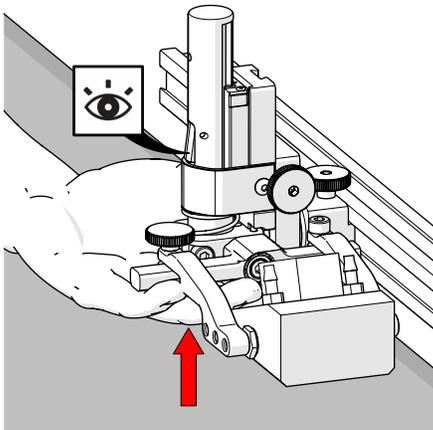
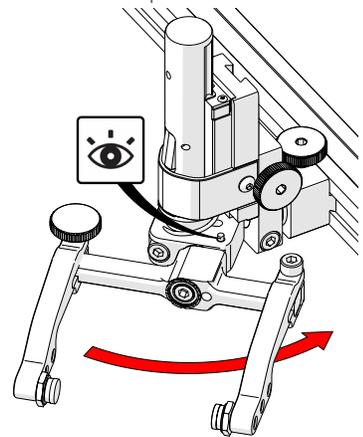

Fig. 49 - Latch probe holder
Fig. 55 - Stop post locates 90°
1. Ensure the probe holder is in the latched upper position. Lift the probe holder until the latch is fully exposed and snaps out to lock (Fig. 49).
1. Ensure the probe holder is in latched, upper position (*Fig. 49*).
To return the transverse adjustment to neutral ( $90^\circ$ ). The probe holder must be in the latched, upper position (*Fig. 49*). Rotate the yoke until the stop post contacts the base of the probe holder (*Fig. 55*). Then tighten the transverse adjustment screw.
1. Ensure the probe holder is in latched, upper position (Fig. 49).